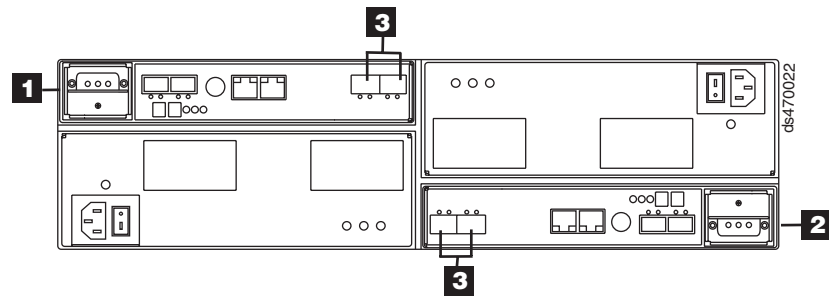

Figure 55. Location of host cables on RAID controllers on the DS4200 Express
2. Connect the fibre channel cables from the SFP modules in the DS4200 Express RAID controller host ports to either the SFP modules in the fibre channel switch or the SFP modules of the host bus adapters. Figure 55 on page 73 shows the location on the RAID controllers on the DS4200 Express Storage Subsystem